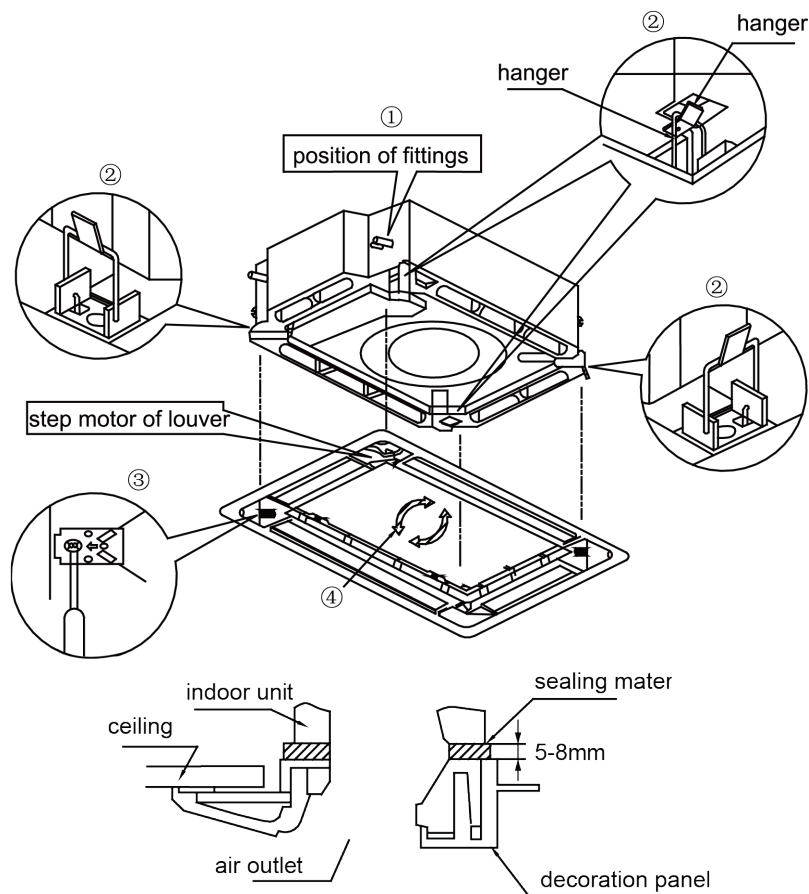

Fig.4.4.4
- (1) Detach the panel's Corner Cap, there is a mark "piping side" on one of the 4 corners, adjust the panel direction so as to keep the mark and fittings on the same corner.
- (2) Temporarily hang the panel to body (there is four hangers on each corner of the panel, hang the hangers to corresponding hooks on the body), as shown in Fig.4.4.4.
- (3) Detach the air inlet grille from panel, make a wiring connection of signal receiver. Notices that the connection wire not stuck in the middle of body and panel, or may cause air leakage and lead to condensation water drop.
- (4) Tighten 4 screws at each corner of panel respectively, fix the panel on the body firmly.
- (5) After tightening screws, reinstall the air inlet grille.